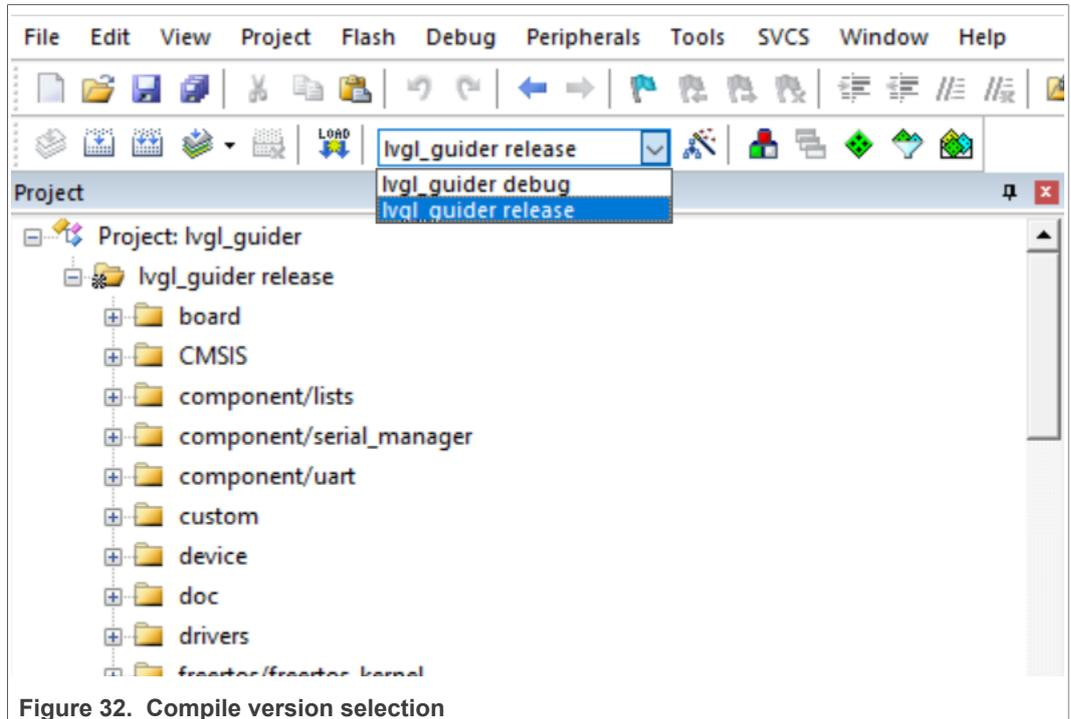

Figure 32. Compile version selection
- Compile the code with the release version. Figure 32 shows the selection of compiled version in Keil IDE.